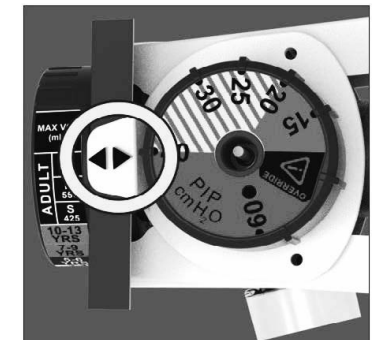

Figure 3: Top-down view of device with PIP and Vt dial indicator arrows found inside circle.
1. **Hold** device so the indicator arrows are on top. See circle in Figure 3.